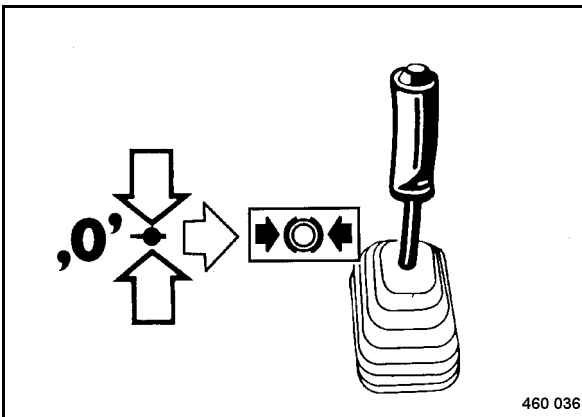

Fig. 65
- Set the travel lever (Fig. 65) to the right in parking brake position.